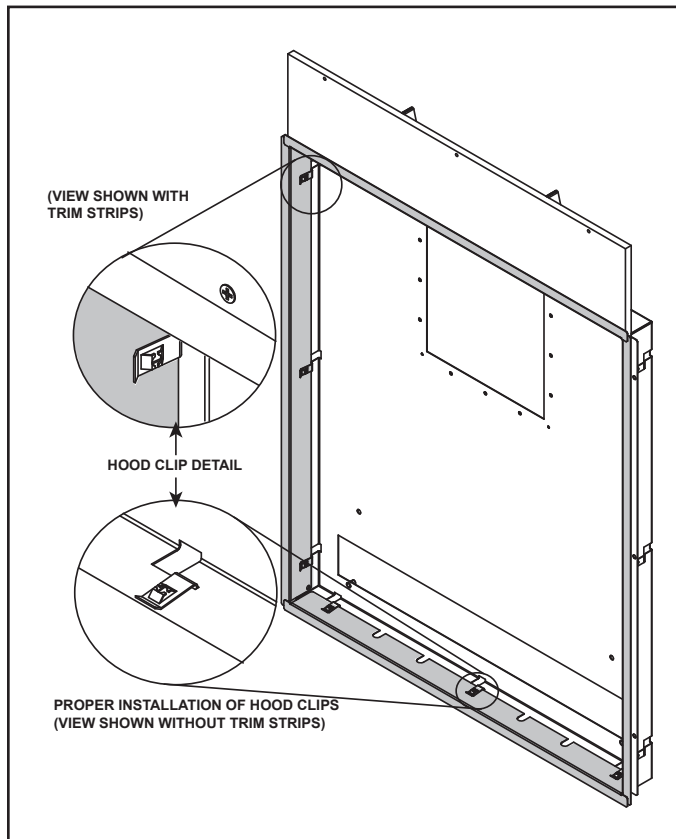

Figure 9. In-Wall Tub Installation - Trim Strips
1. Trim strips may be used to clean up any rough sheet rock edges. See Figure 9.